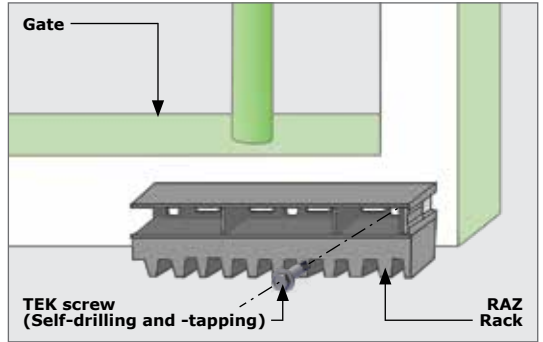

FIGURE 60
**Fit an additional fixing screw through the horizontal slots to secure the rack to the gate directly above the Pinion when the gate is in the closed, pedestrian and open positions as shown in Figure 60.**